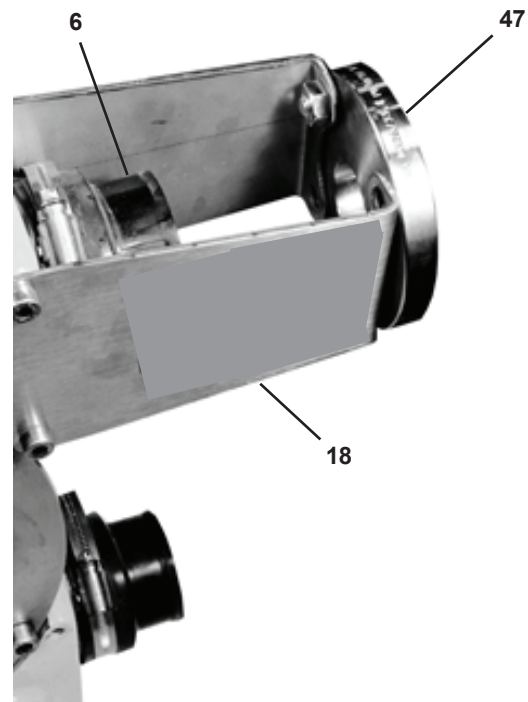

Figure 7
1. Pre-assemble the flange (47) at the inlet port with two bracket bolts See Figure 7.